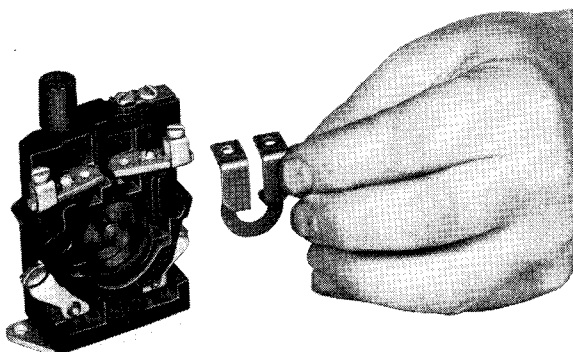

FIG. 1. Thermal Overload Relay Showing Heater and Installation Method.
3. The overload heater is shipped in a separate carton. First check the heater marking (adjacent mounting holes) against the Heater Application Tables to see that the full load current marking of the motor nameplate comes within the current range of the heater. Install heater as shown in Fig. 1, making sure that heater mounting screws are tight.